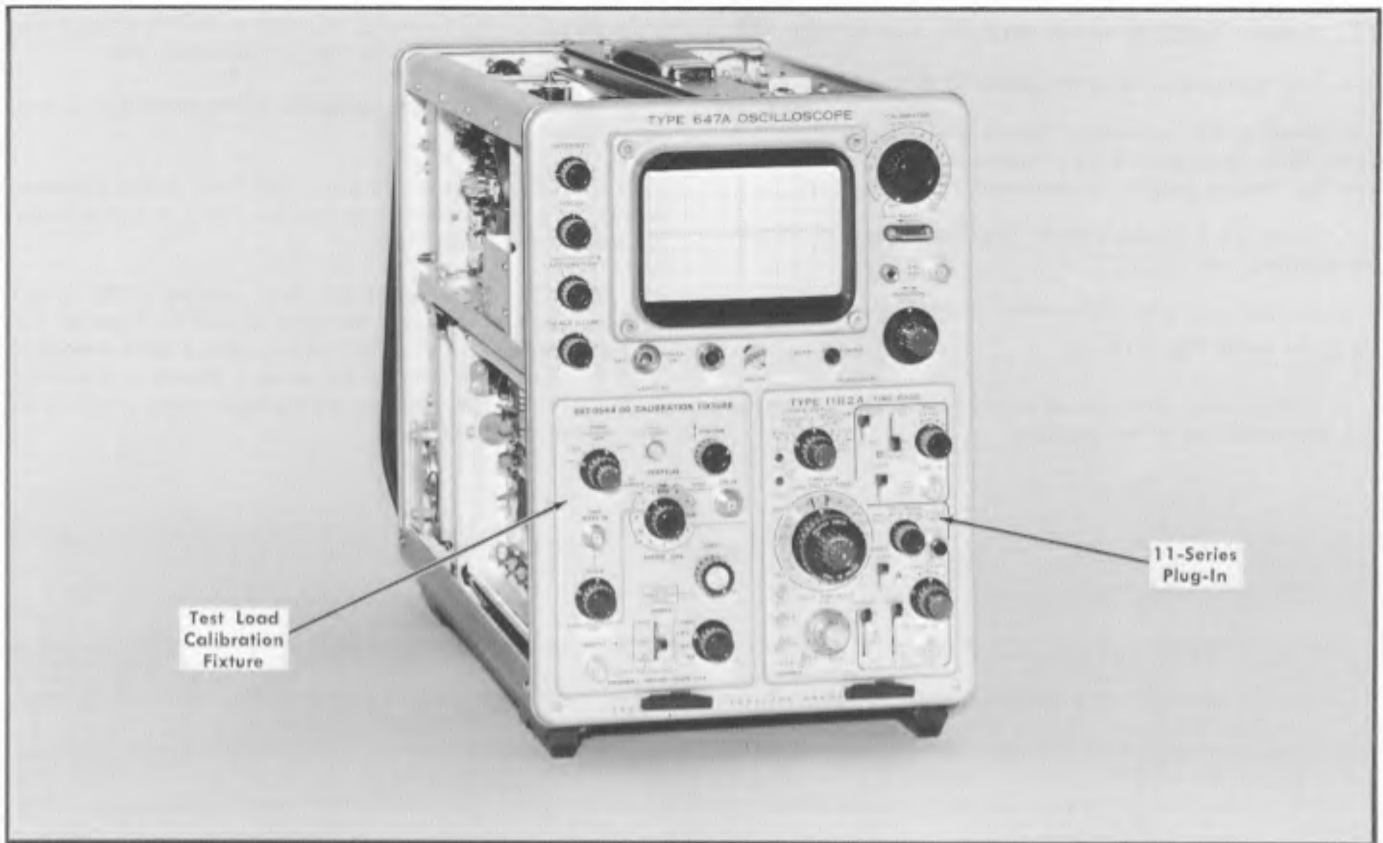

Fig. 6-16. Initial test equipment setup for step 17.
- Test equipment setup is shown in Fig. 6-16.
- Set the calibration fixture and 11-series plug-in controls as given below Fig. 6-16.